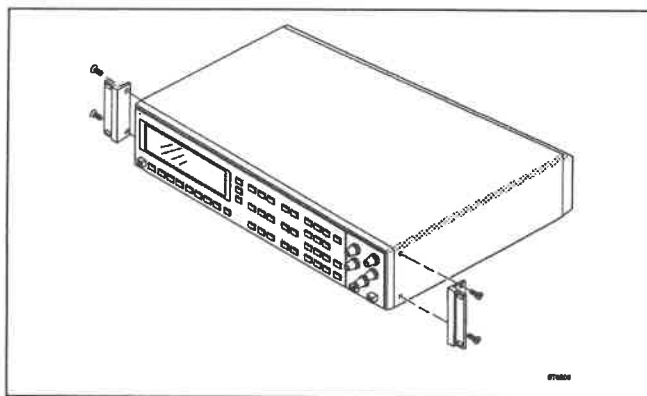

Fig. 3.2 Installing the rack mount kit.
- remove the 2 foremost screws at each side of the instrument (Fig. 3.2).